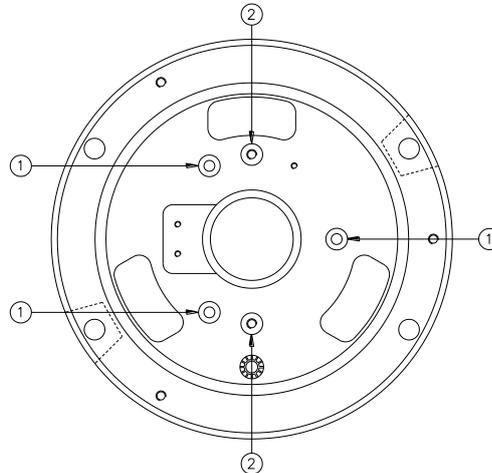

Figure 18 – Removing the Aluminium Ring
- unscrew the three screws HSFH M5x10 (Figure 18- n° 1) and remove the aluminium ring using two of them into the proper extraction-holes (Figure 18 - n° 2)